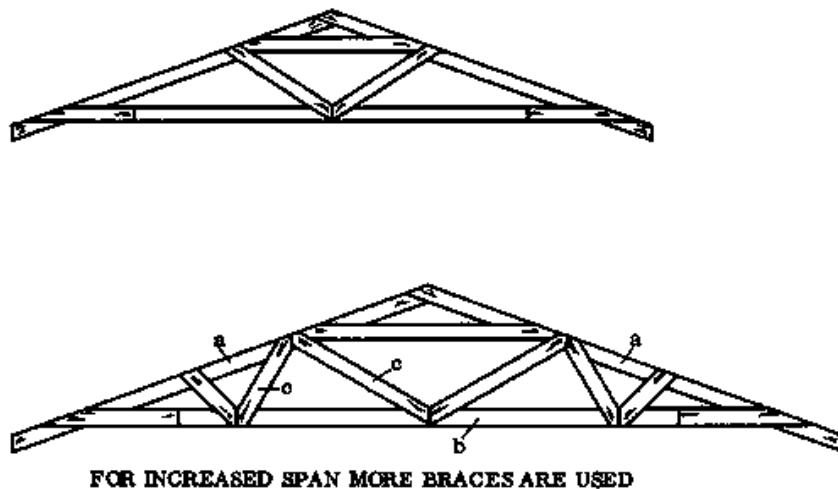

Fig. 2 MODERN LIGHT-WEIGHT STRUCTURES
In modern light-weight structures, the strength of the roof is increased for larger spans by building up brace structures in the shape of triangles (Fig. 2), instead of using larger timbers. This construction uses small timbers, which are cheaper and lighter in weight; therefore we get a light-weight structure.
- TERMS: The sloping members are called “rafters” (Fig. 2, a).